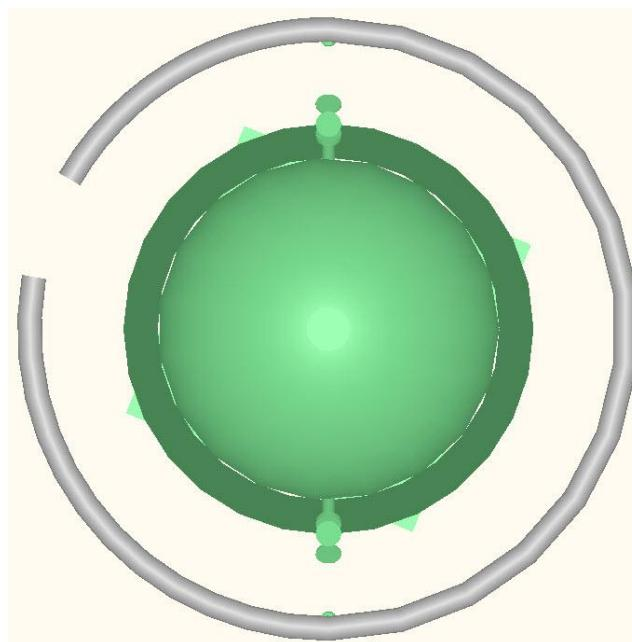

Figure 14.38: Plan View of Finished Weldolet Insertion
45. The configuration should look Figure 14.38 when completed.